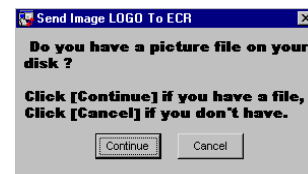

Figure 9
3. The Downloader will prompt you if you have an image file ready for transfer to the ER-A520/530. Click [Continue] if you have a file that has been prepared. (Fig. 9)